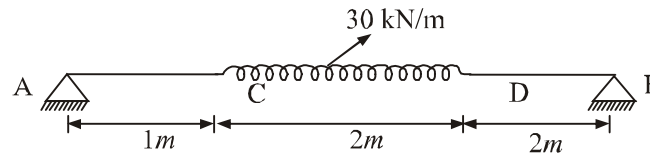

Figure 1
2. Determine the maximum deflection in the beam loaded as shown in figure 1, take young's modulus (E) = 2×10^5 N/mm² and moment of inertia $I = 5000$ cm⁴.